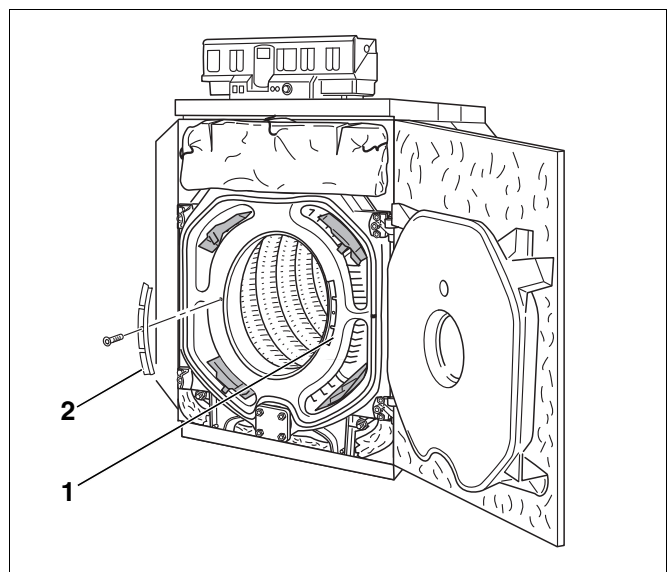
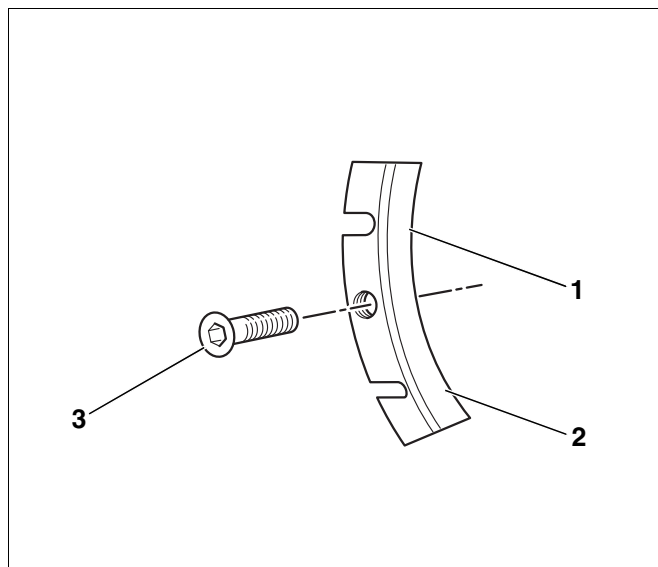

Fig. 68 Position of hot gas check plates
Fig. 69 Hot gas check plate
- Take the hexagon socket screws out of the hot gas check plates on the left and right (Fig. 68, [1] and [2]) and remove the hot gas check plates.
- ▶ Take the hexagon socket screw (Fig. 69, [3]) out of the hot gas check plate on the left and right (Fig. 68, [1] and [2]) and remove the hot gas check plates.
- ▶ Place the hot gas check plate on the support with the channels (Fig. 69, [1] and [2]) facing downwards. Knock off one segment of the left and right hot gas check plate with a hammer.